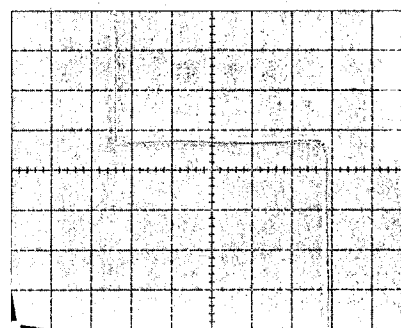

Figure 1-1. Input offset voltage.
- 3) Measure trace— Advance SWEEP AMPLITUDE on 178 to obtain full range of specified input offset voltage. Press UPPER and LOWER STORE buttons on 577 to obtain clear, lasting trace. (If necessary, press UPPER and LOWER ERASE first to clear screen.) Check to see that vertical displacement is within specified value [3 divisions, equal to 6 mV] over op amp's specified output range [+10V, 2 divisions each way from center]. See Figure 1-1. 43 3